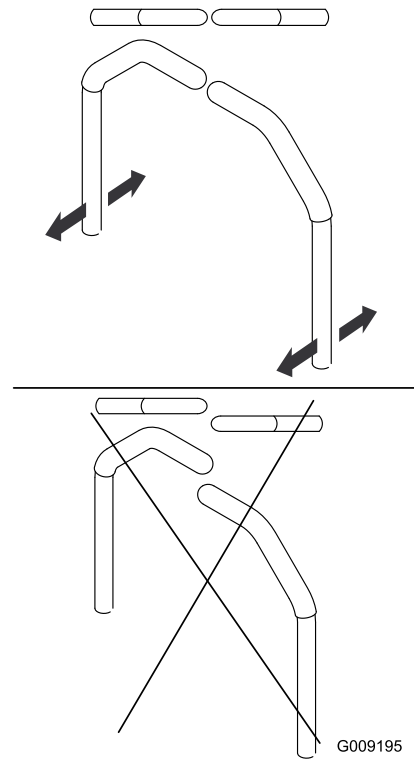

Figure 57
7. Align the levers in the front-to-rear position by bringing the levers together to the NEUTRAL position, and slide them until they are aligned, then tighten the bolts (Figure 57).